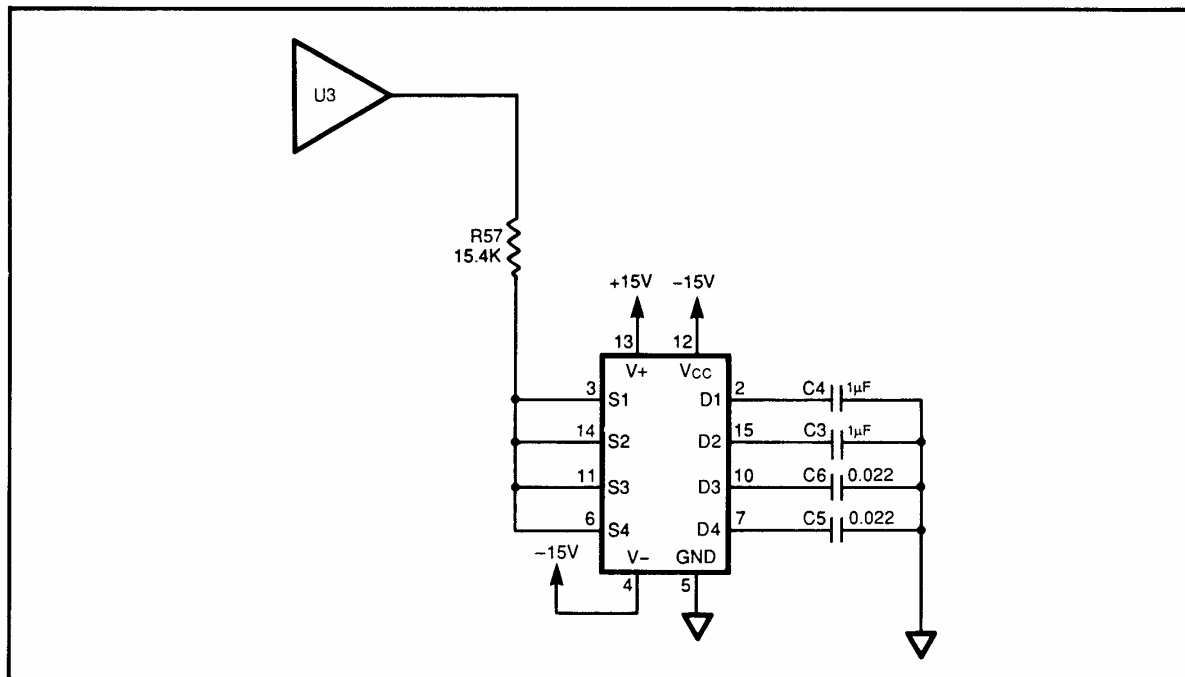

Figure 8-32. Smoothing Circuitry
- e. **Smoothing.** The smoothing function provides a stable, jitter-free CRT display. The smoothing circuitry is shown in Figure 8-32.